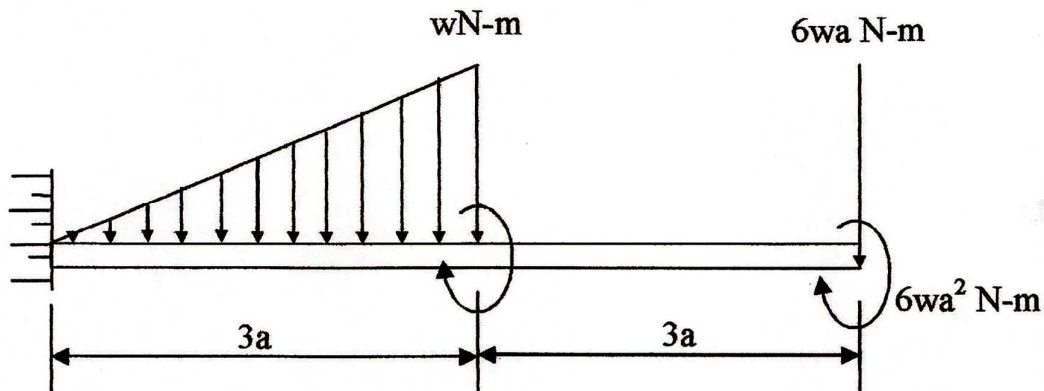

Figure Q4
- a) Figure Q4 shows a cantilever beam of length $6a$ meters and fixed at the left hand end. The beam supports a distributed load varying in magnitude from zero at the left hand end to w N/m at the center of the beam, a point of magnitude $6wa^2$ N-m at the free end and two clockwise moments each of magnitude $6wa^2$ N-m at the center and at the free end.